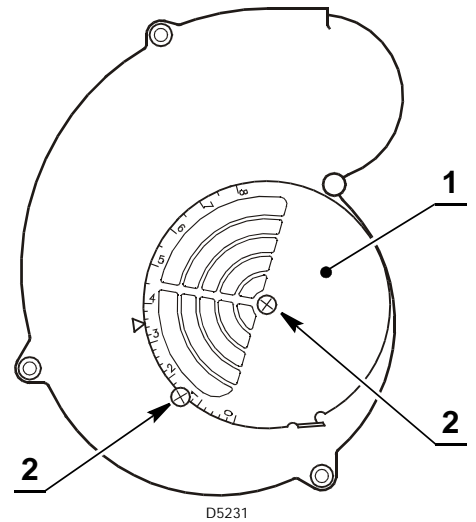

Fig. 11
The regulation of the air-rate is made by adjusting the air damper (1) Fig. 11, after loosening the screws (2).